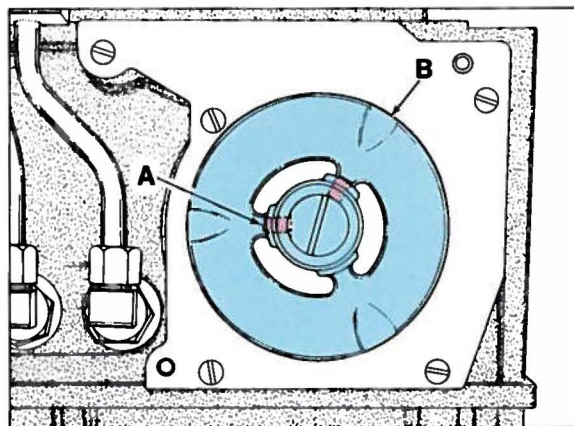

Fig. 2
A quick check to determine if feed is timed with needle - turn handwheel in operating direction to position needle bar at TOP of stroke. Setscrew (A, Fig. 2) in the pulley (B), located on the FLAT of lower mainshaft should be to the FRONT or 9 o'clock as viewed in Fig. 2.